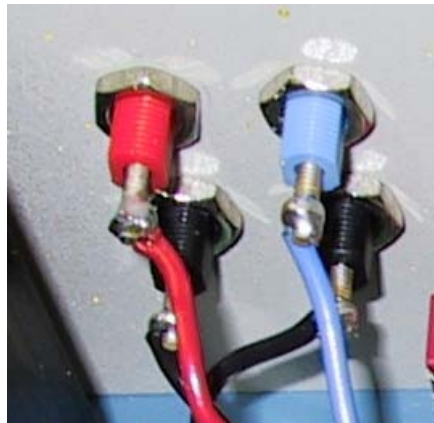
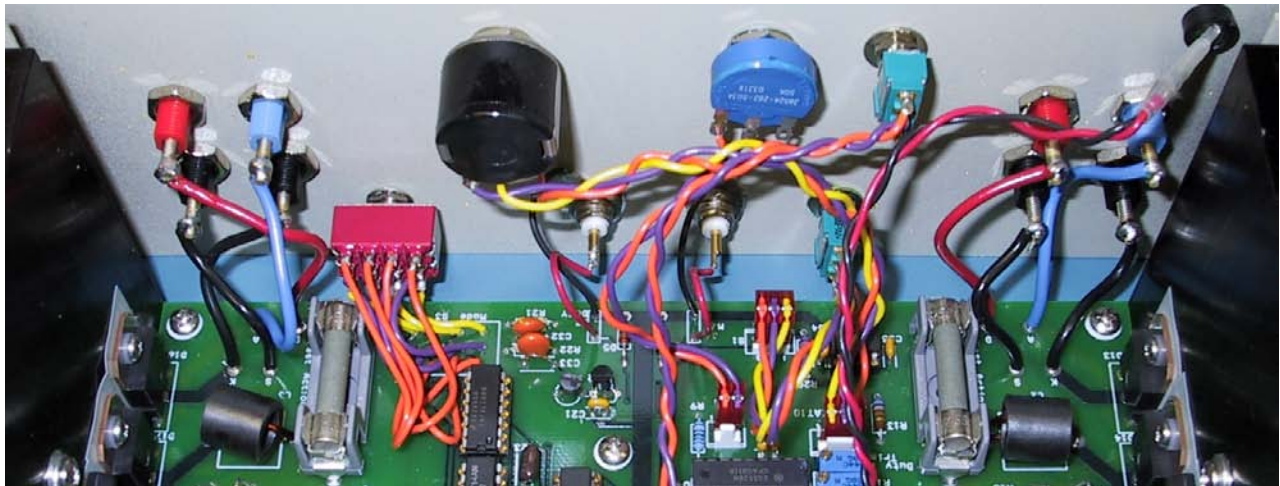

Figure 16: Solder wires from PCB to binding posts
Figure 17: Inside of front panel fully assembled
2. Solder all wires from front panel assembly to PCB according to Table 4, Table 5, Figure 16, and Figure 17.